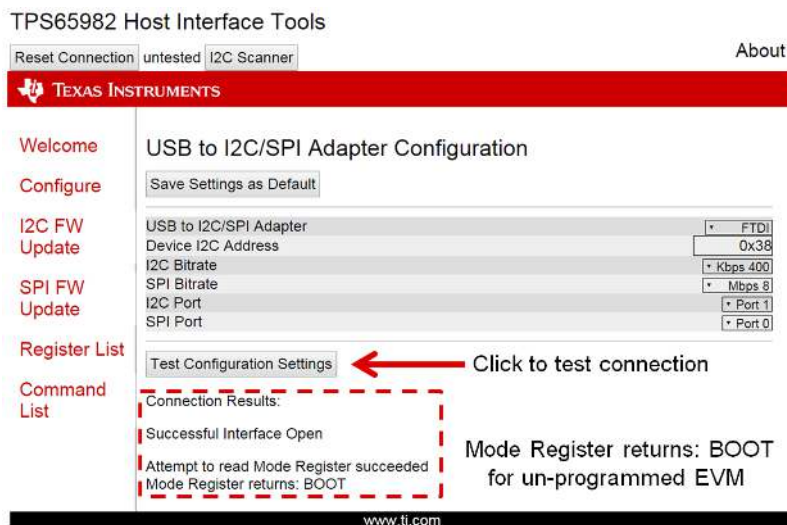

Figure 14. Host Interface Adapter Configuration Test (Error-Free Results)
- Step 2. Wait until the results are displayed in the *Connection Results* section. An EVM that does not have firmware displays *BOOT* after the *Mode Register returns* field (see Figure 14).